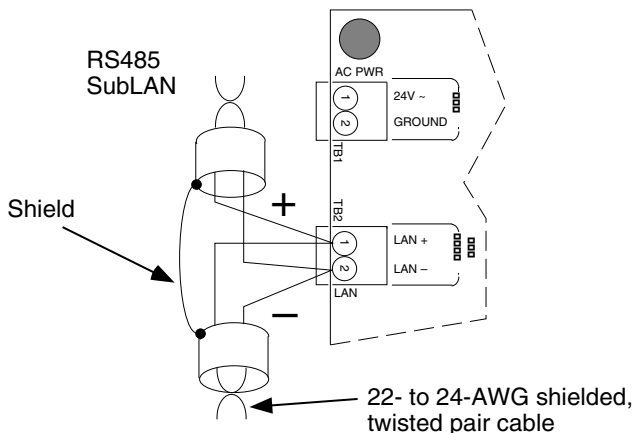

Figure 6. subLAN Connections
1. Connect the + lead of the twisted pair subLAN cable to terminal TB2-1 (LAN+), see Figure 6.